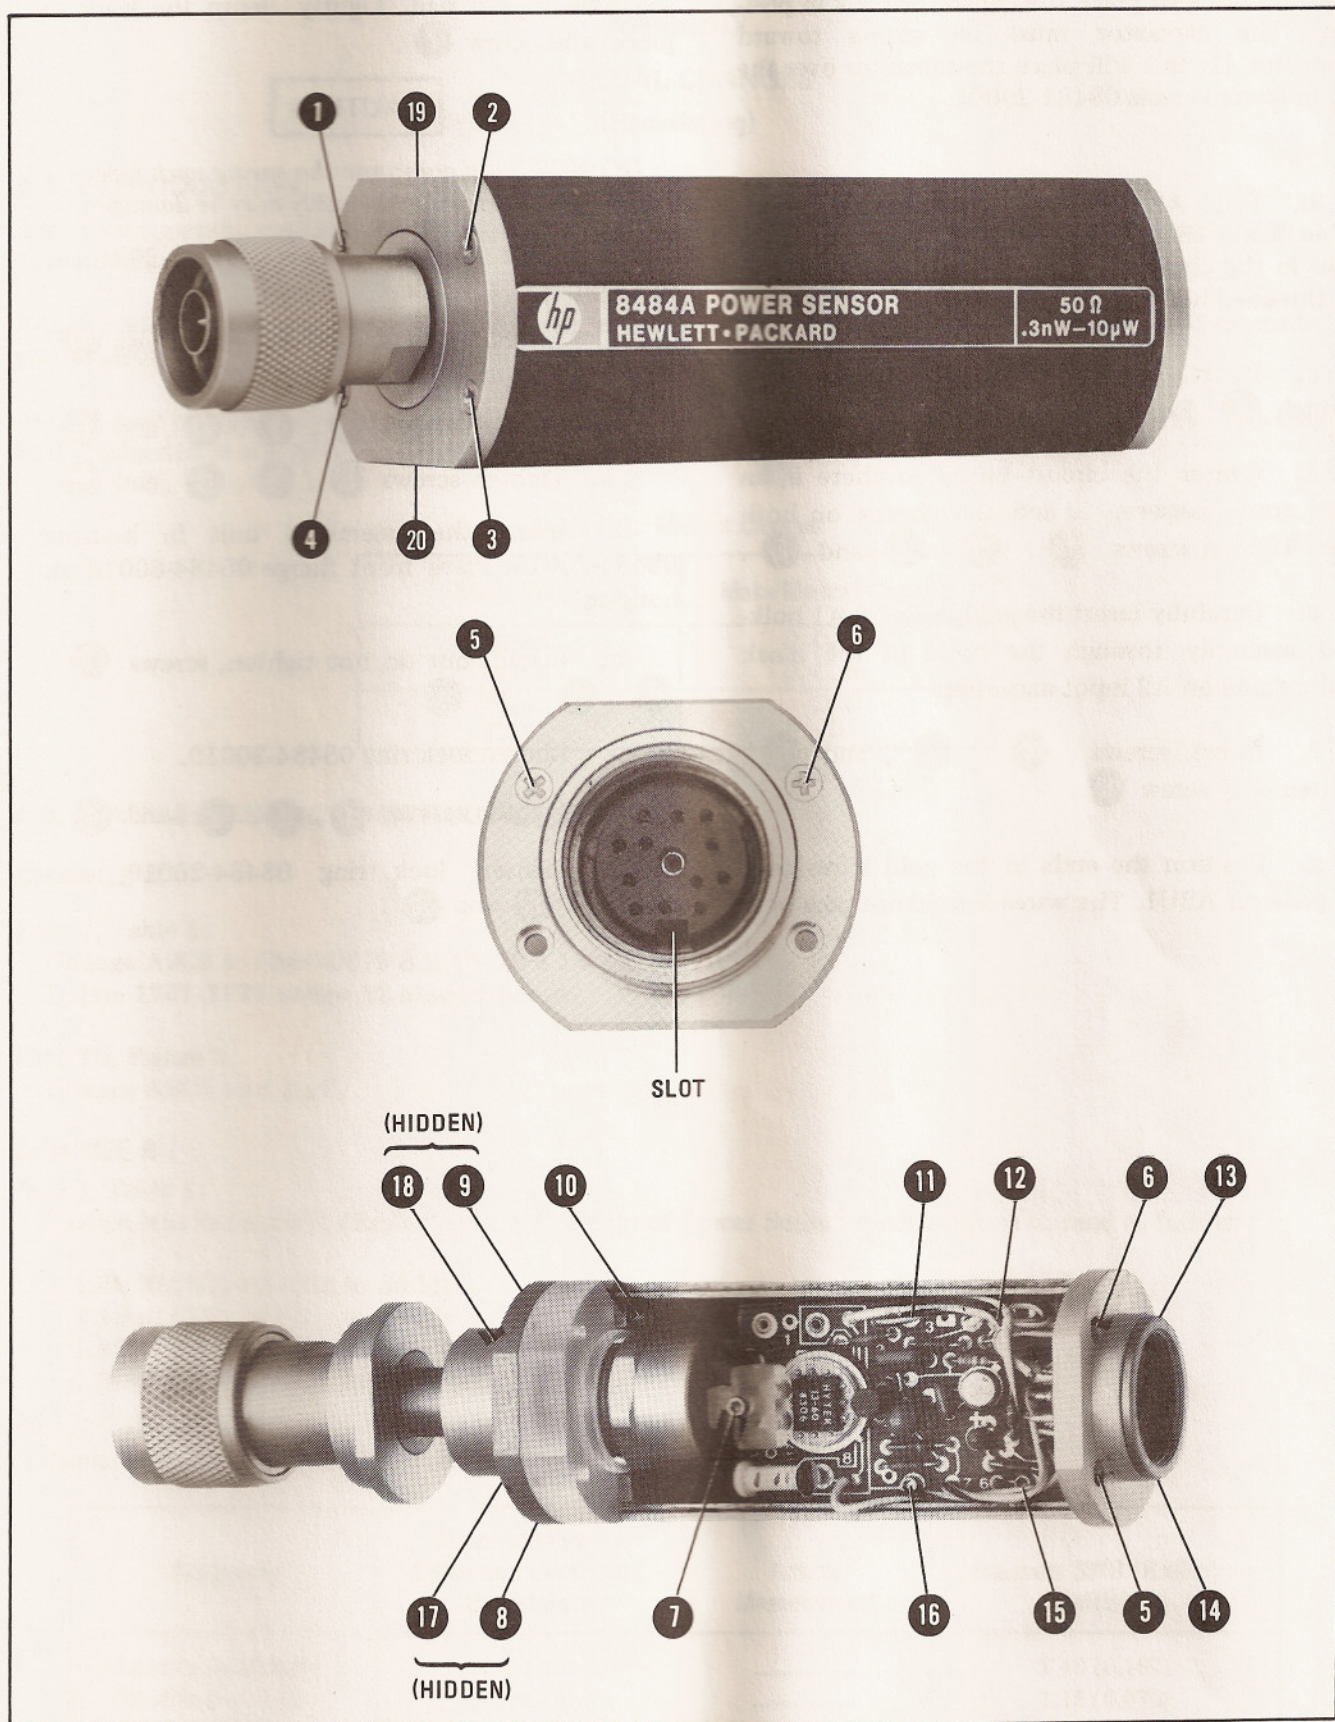

Figure 7. Power Sensor Disassembly and Assembly
78. In detail, the steps above are performed as follows. (Refer to Figure 7.)
c. Insert, but do not tighten, screws 11 through 15. Refer to Figure 7.